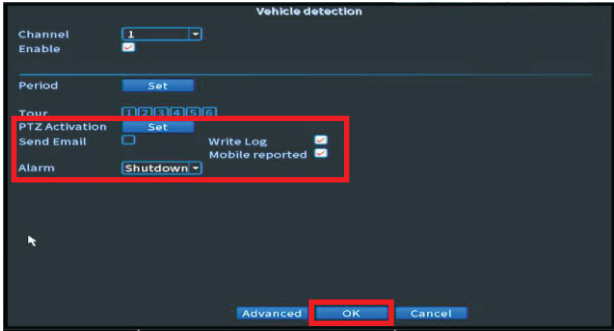

Figure 7. Set PTZ Activation, Send Email, Write Log, Mobile Reported
- Set the Alarm output whether to send email, PTZ Activation (optional), Write log or Mobile Reported. See Figure 7.
- Click "OK" to apply all the settings being configured on the system. See Figure 7.